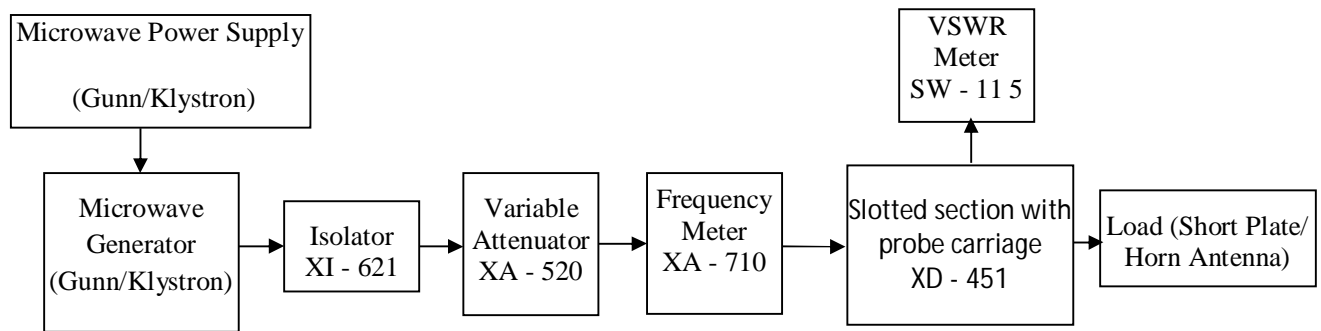

Fig .6.1 Experimental set up for Impedance Measurement
1. Set up the equipments as shown in Fig.6.1.